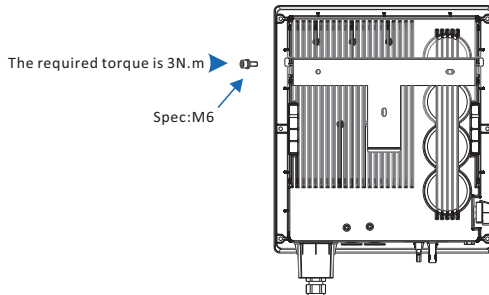

Figure 4.14 Securing the inverter
**Step 2** Mount the inverter on the rear panel and keep them aligned with each other, as shown in Figure 4.14.
**Step 3** Tighten the two hexagon screws at the both sides of the inverter to a torque of  $3\text{N}\cdot\text{m}$  respectively. as shown in Figure 4.14.